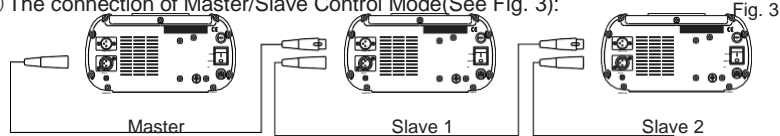

Fig. 3
(4) The connection of Master/Slave Control Mode(See Fig. 3):